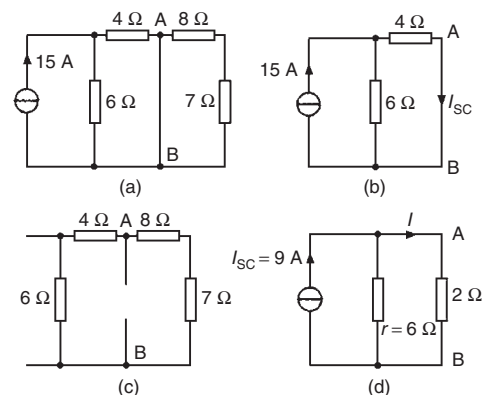

Figure 13.63
- (i) The 2Ω resistance branch is short-circuited as shown in Fig. 13.63(a)
(ii) Fig. 13.63(b) is equivalent to Fig. 13.63(a). Hence
- (iii) If the 15A current source is replaced by an open-circuit then from Fig. 13.63(c) the resistance 'looking-in' at a break made between A and B is given by (6 + 4)Ω in parallel with (8 + 7)Ω, i.e.
- (iv) From the Norton equivalent network shown in Fig. 13.63(d) the current in the 2Ω resistance is